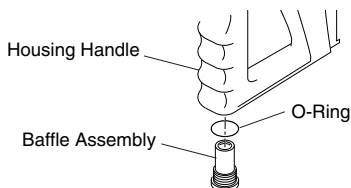

Figure 15 - Inserting Baffle Assembly
1. Insert baffle assembly with o-ring into handle and tighten (see Figure 15).